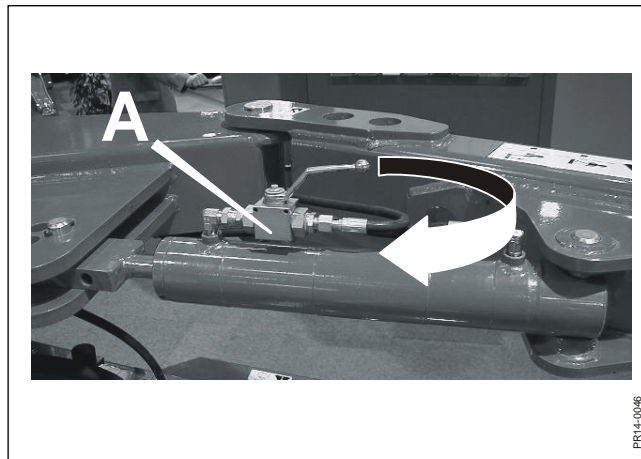

Fig. 3-4
- Fig. 3-4 When the machine has been put into transport position behind the tractor, the ball valve **A** at the cylinder for the drawbar must be closed. Move the handle on the ball valve in direction of the arrow in order to turn off the oil supply. The valve is closed when the lever is across the cylinder.